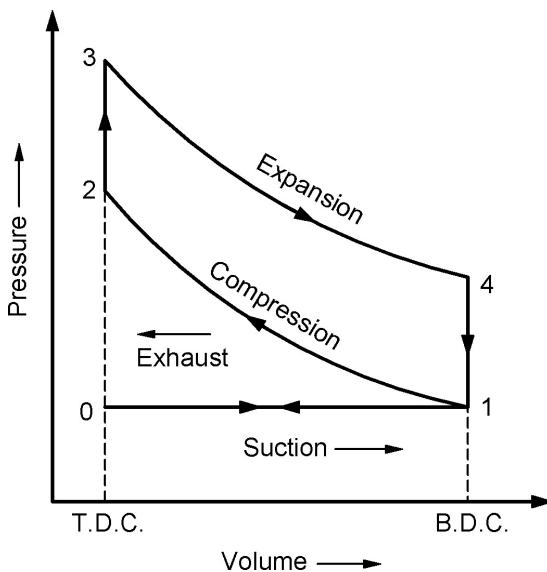

Fig. 3. 3: p-v diagram of four stroke petrol engine
- When the piston reaches BDC position, the suction stroke ends and inlet valve closes. During this stroke, pressure remains constant with increase in volume. This is represented by 0-1 on p-v diagram, Fig.3. 3
- (1) Assume that the piston is at BDC position as shown in Fig.3. 4(a). During this stroke, the piston moves upwards from BDC to TDC. Air has already entered into the cylinder from the crankcase through the transfer port.
- (3) Due to upward movement of the piston, a partial vacuum is created in the crankcase. The inlet port opens and air is sucked into the crankcase through the inlet port as shown in Fig.3. 4(b)
- (4) Just before the end of compression stroke diesel fuel is forced under pressure in the form of fine atomized spray into the engine cylinder through the fuel injector. The temperature of the compressed air is high enough to ignite the diesel fuel.
- (5) The rate of diesel injection is such that constant pressure is maintained during combustion. Thus, heat addition is at constant pressure and is represented by line 2-3 on p-v diagram. At the end of first stroke, piston reaches TDC position.